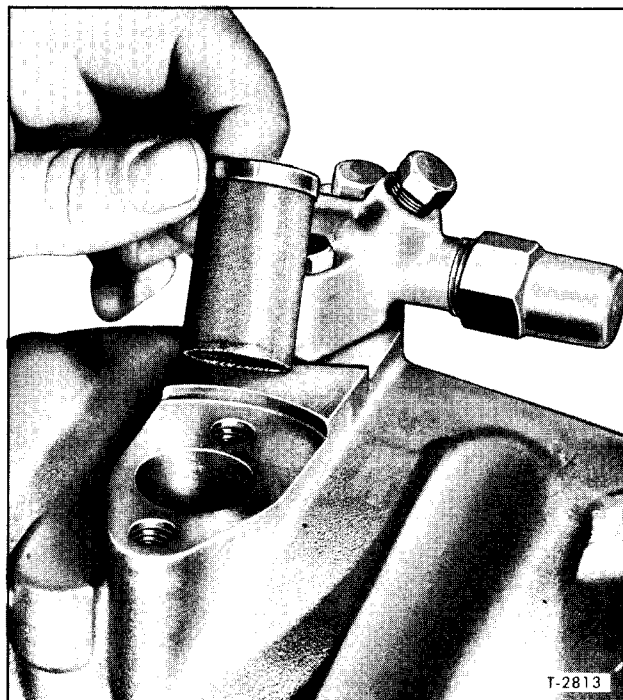
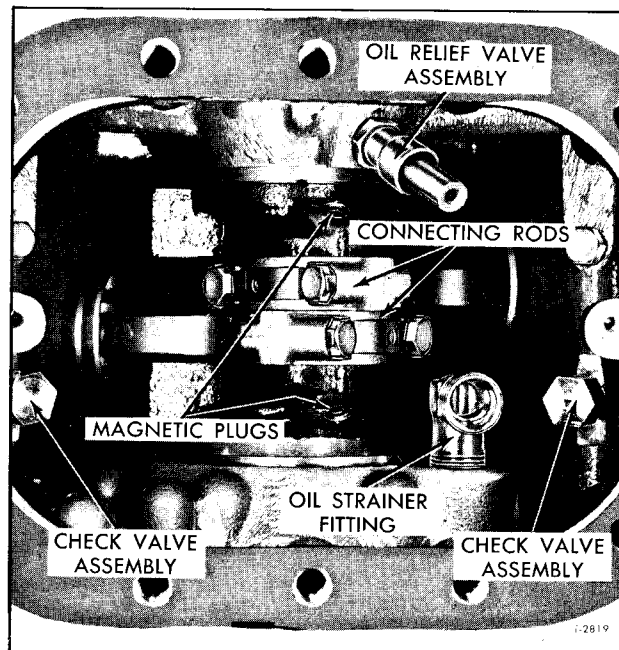

Figure 30—Removing Strainer Screen Assembly
Figure 36—Connecting Rod, Cap, and Bolts Installed
2. Remove strainer screen assembly (26) from the suction valve port as shown in figure 30.
(14) until connecting rod cap bolts are accessible through the handhole cover opening. Oil strainer (62) must be removed (fig. 30). Open the tabs of connecting rod bolt lock strap (35) as shown in figure 36, then remove cap bolts. Remove the cap from bottom of connecting rod. Being very careful, pull liner with piston and rod from the cylinder bore. Pull liner from piston.
NOTE: Valves are shown installed in figure 36.
Referring to figure 36, install oil relief valve (61) and two oil check valves (60) as shown. Tighten valves firmly.